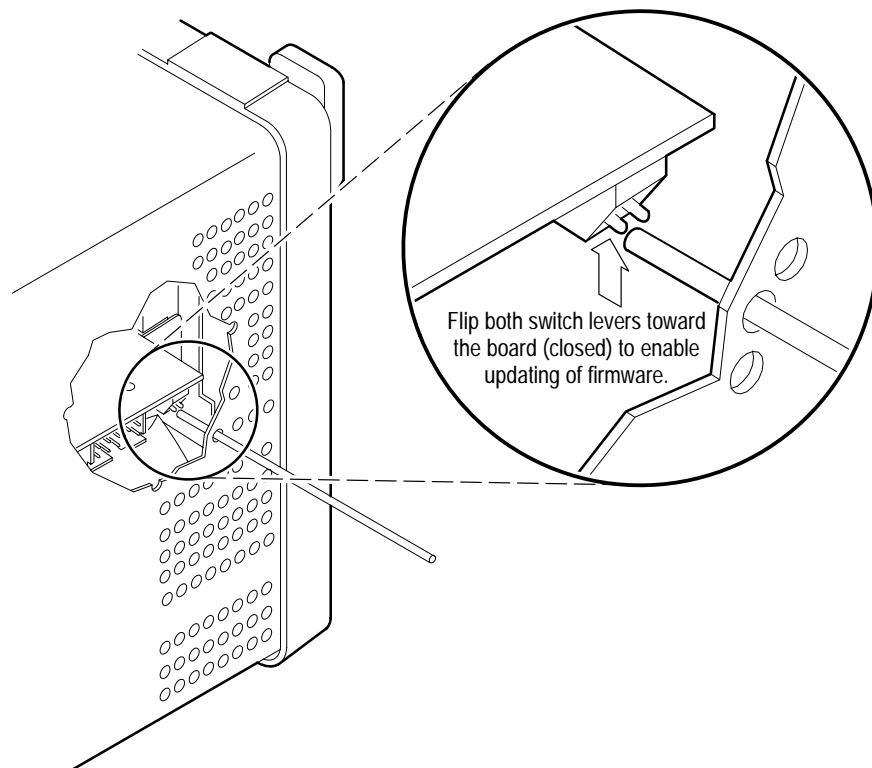

Figure 6–26: Accessing the Protection Switch
**NOTE.** You must set both switches of the Protection switch to the unprotected position before updating the firmware. Figure 6–26 shows how to set the switch. After loading the firmware, be sure you set both switches back to the protected position and cycle power.
**NOTE.** You may need a DB-9 to DB-25 adaptor, null modem adaptor, gender changer adaptor, and an extension cable to connect the console port to your personal computer (see Figure 6–27 on page 6–27). Using Table 6–9 as a guide you can wire a cable to take the place of a DB9 to DB25 adaptor, null modem adaptor, gender changer, and an extension cable.
- 1. Equipment required:** Console port (Item 1), a personal computer or terminal (Item 2), and telecommunication (terminal) software (Item 4) for the personal computer. Your personal computer may also require a DB-9 to DB-25 adaptor, null modem adaptor, gender changer adaptor, and an extension cable to connect the console port to your personal computer (see Figure 6–27 on page 6–73).